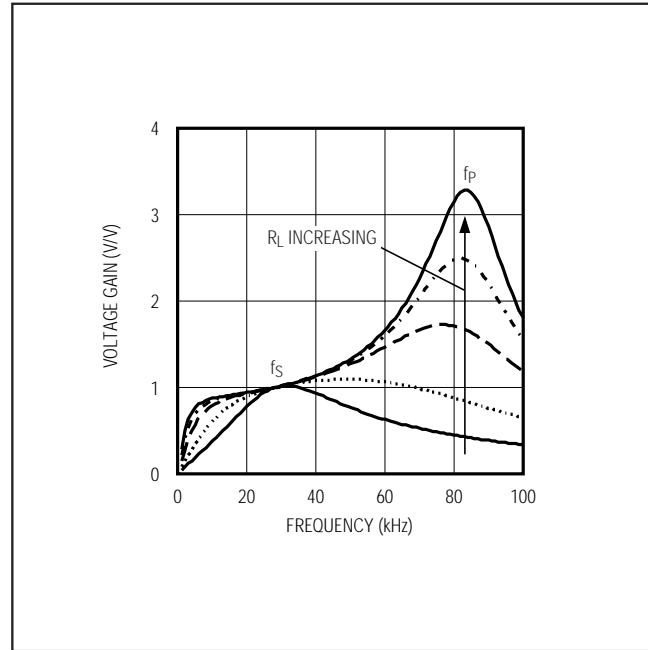

Figure 5. Frequency Response of the Resonant Tank
Figure 5 shows the frequency response of the resonant tank's voltage gain under different load conditions. The primary series capacitor is 1 μ F, the secondary parallel capacitor is 15pF, the transformer turns ratio is 1:93, and the secondary leakage inductance is 260mH. Notice that there are two peaks, f_s and f_p , in the frequency response. The first peak, f_s , is the series resonant peak determined by the secondary leakage inductance (L) and the series capacitor reflected to the secondary ($C's$):